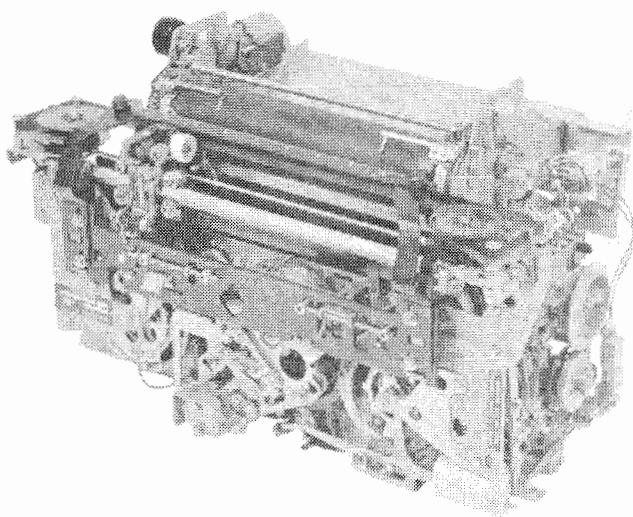

Figure 2 - 37 Typing Unit
2.04 The typing unit (Figure 2) receives information serially by means of a single magnet (two coils) type of selector. A function box is provided for character and character sequence recognition.